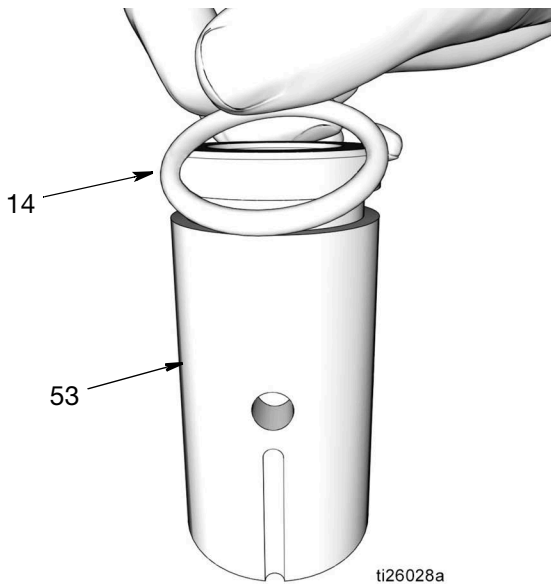

FIG. 41
- a. Use a clean cloth to wipe down the pump element sleeve (53) and remove any dirt or contaminants. Inspect surface for any scratches or damage.
- b. Apply a thin layer of grease to o-ring (14). Install o-ring around the pump element sleeve (d) (FIG. 41).